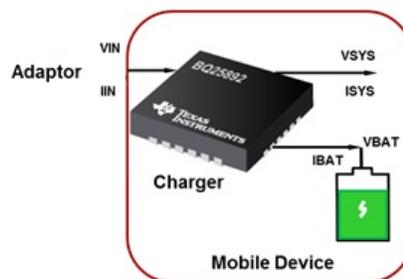

Figure 1. Wall Adapter and Battery-charger IC
When you plug in your smartphone to charge, you want it to charge as fast and safely as possible. The integrated circuit (IC) that a smartphone (or other mobile device) cable plugs into is typically a battery-charger IC like the one shown in Figure 1. This IC powers the phone and charges the battery so that it can power the system in the absence of an adapter.